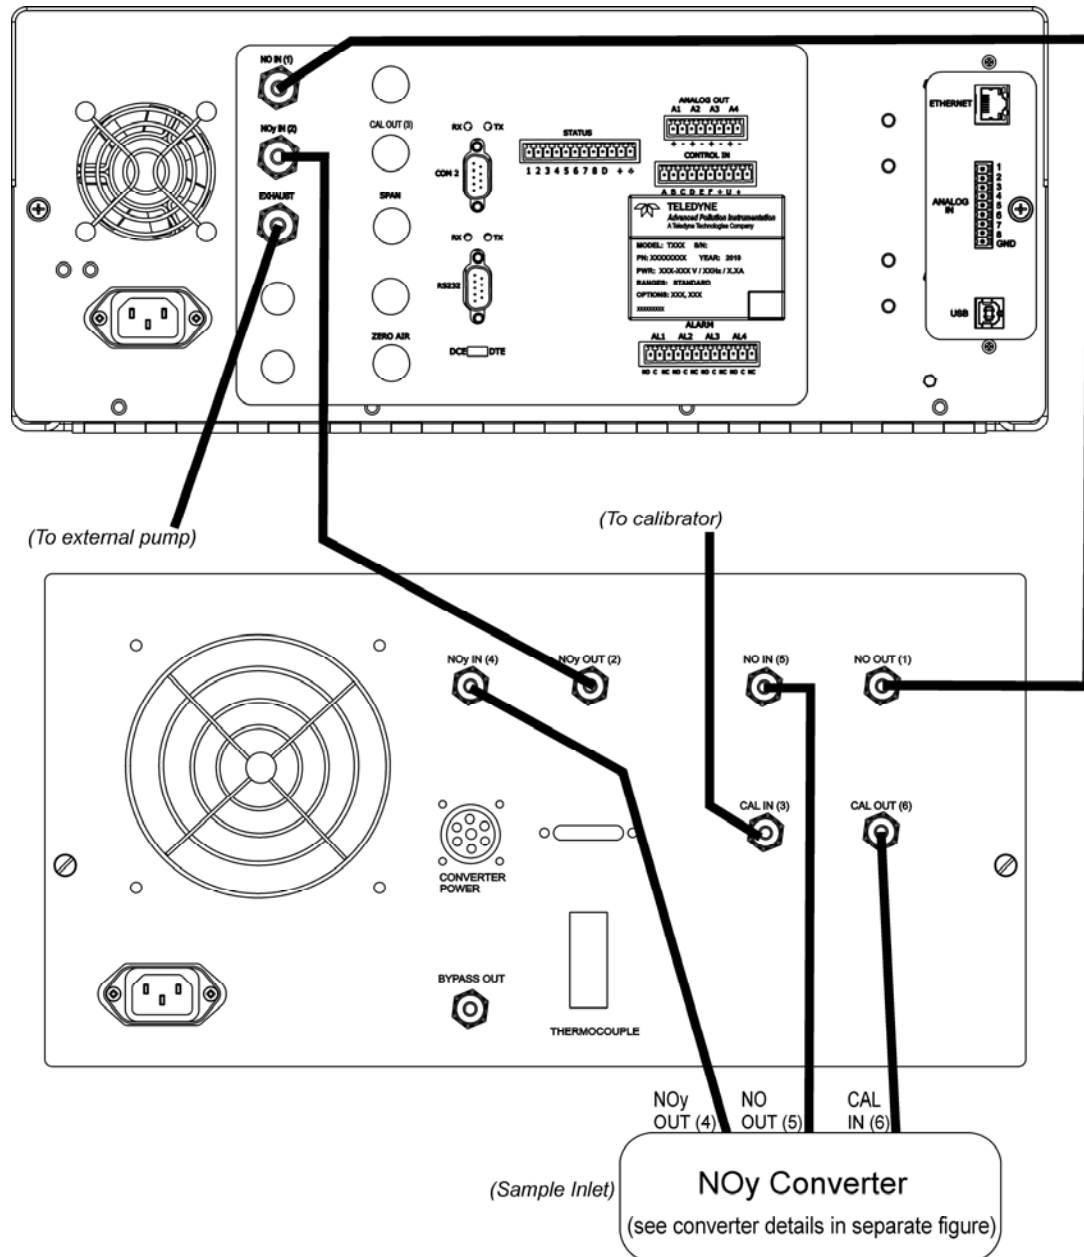

Figure 2. Rear Panel Pneumatic Connections
Refer to **Figure 2** for an illustration of the pneumatic connections; refer to the tags on each tube to match up the correct tube with the appropriate rear panel fitting.
6. Connect the pneumatic cable fitting from the calibrator to the 501Y rear panel (**Figure 2**).